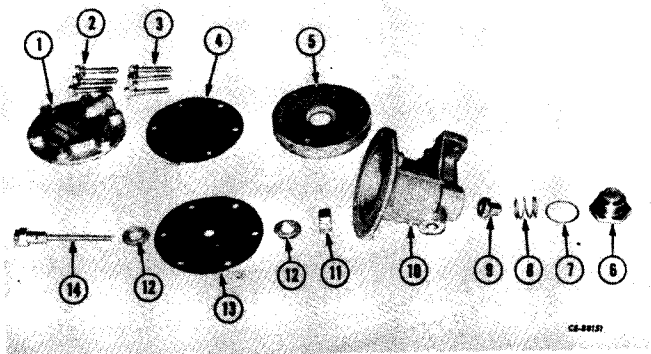

Figure 13-52
Remove the cap (6, Fig. 13-52), gasket (7), spring (8) and valve (9). Remove the cap screws (3) and lock washers (2). Separate the body (1), diaphragm (4), body (5) and diaphragm (13) from the main body (10). Remove the nut (11), push